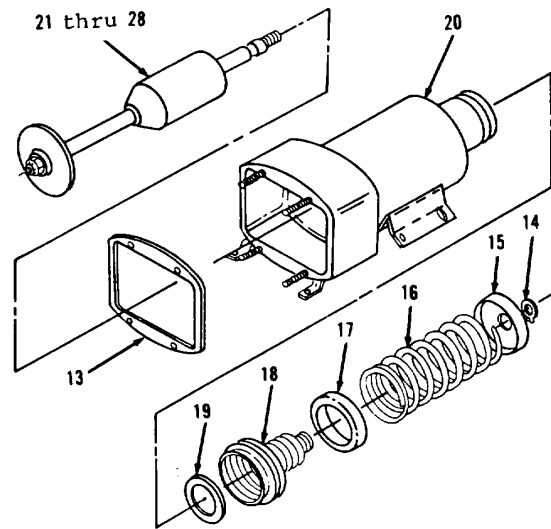

Figure 4-59.
7. Remove two studs (9), terminal (10) and insulator (11) from cover (12).
8. Remove and discard gasket (13) from housing (20, Figure 4-59). Remove all gasket material from mounting surfaces.
9. Using retaining ring pliers, remove ring (14).
10. Remove retainer (15), spring (16) and retainer (17).
11. Remove boot (18) and washer (19).
12. Remove items 21 thru 28 as an assembly from housing (20).